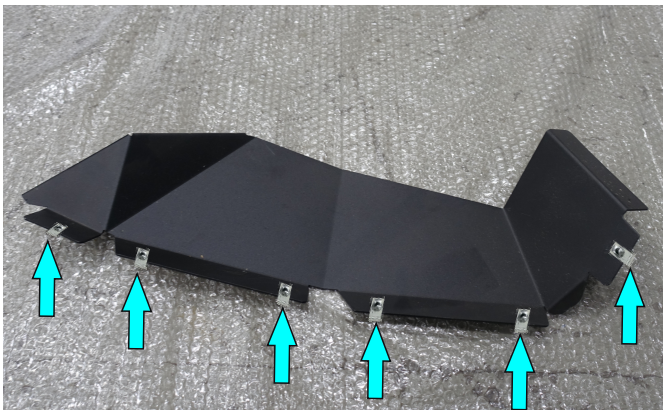

Fig.90
88. Install cage nuts M6 (item G) on flaps (items 11, 14) (fig.90).